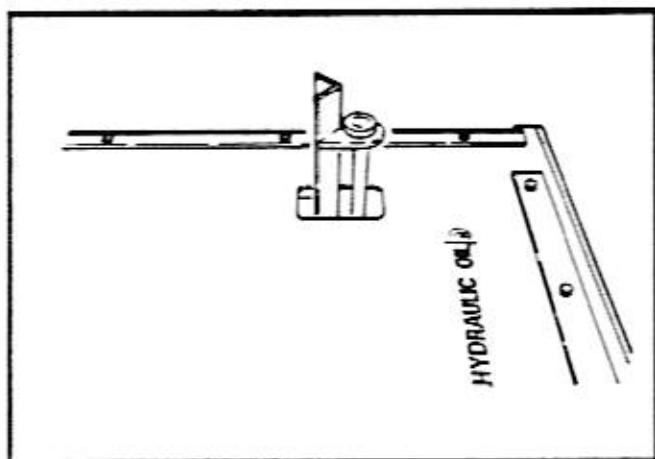

Figure 5-1. Gauge Rods and Bars
4. Lower the rear of the machine until the gauge rods are even with the top of the gauge bars. Refer to Figure 5-1.